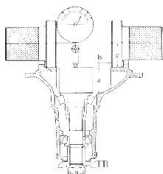

Fig. 10-12
- 2) Set the special tool in position as illustrated in the Fig. 10-12. Tighten the nut to the 50–70 kg-cm (3.6–5.1 lb-ft) torque.